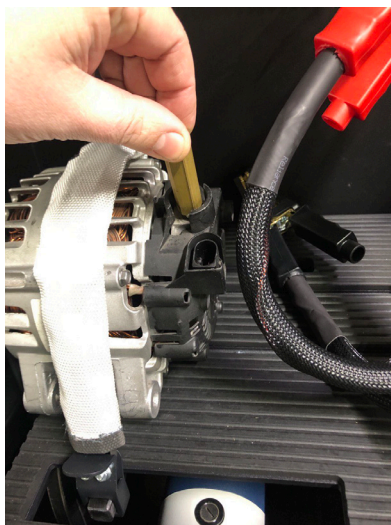

Figure 15
6. Screw the adapter onto the "B+" terminal (see Fig. 15).